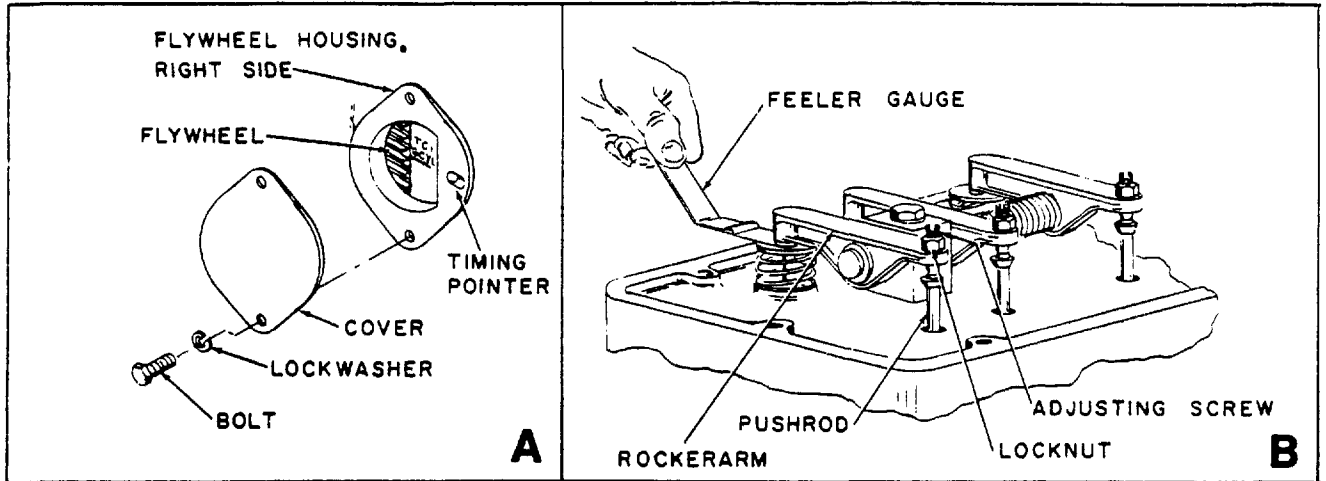

Figure 4-69. Valve Lash Adjustment
Inspect rocker arms (see figure 4-69) for loose mounting, indications of cracking, deformity, or other damage or defects.
Engine valve lash should be adjusted when valves become noisy. Valve lash should be checked at 500 hours and then every 2500 hours of engine operation thereafter. Adjust valve lash as follows (see figure 4-69).
(1) Remove flywheel housing cover as illustrated in A, figure 4-69.
(a) Insert feeler gage as shown in B, figure 4-69. Loosen locknut and rotate adjusting screw until proper clearance is obtained.